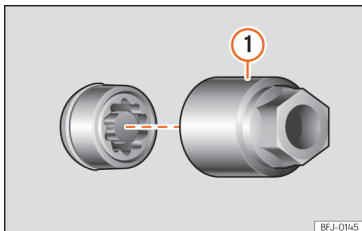

Fig. 218 Anti-theft wheel bolt with cap and adapter.
- Insert the special adapter »»» Fig. 218 ① (vehicle tools »»» page 284) onto the anti-theft wheel bolt and push it on as far as it will go.